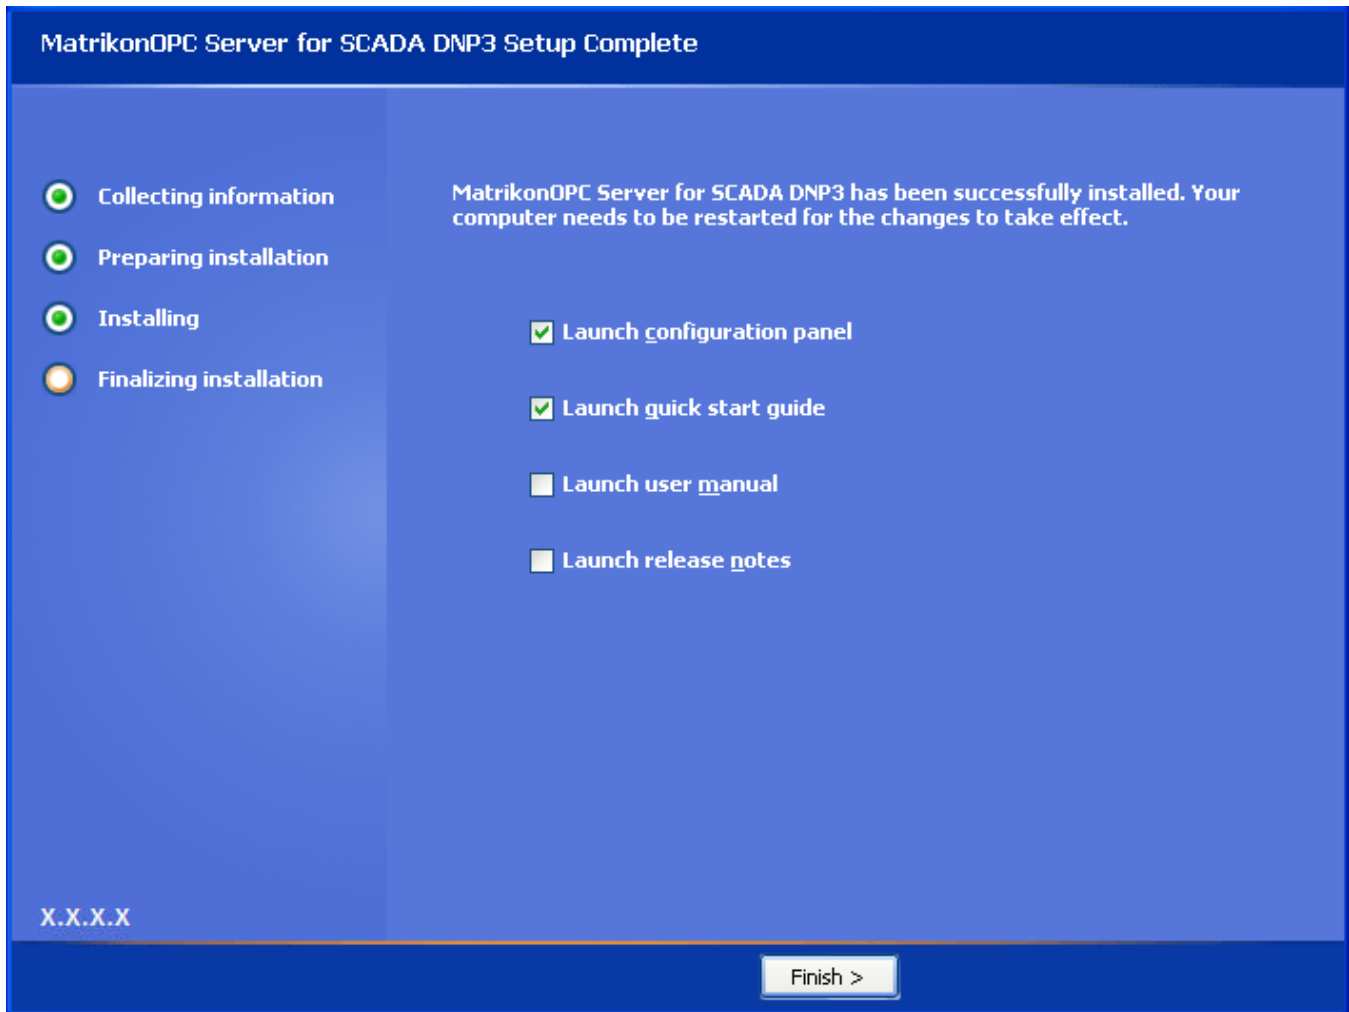

Figure 10 - MatrikonOPC Server for SCADA DNP3 Setup Complete Screen
17. When the installation has finished, the **MatrikonOPC Server for SCADA DNP3 Setup Complete** screen (Figure 10) appears stating that MatrikonOPC Server for SCADA DNP3 has been successfully installed.